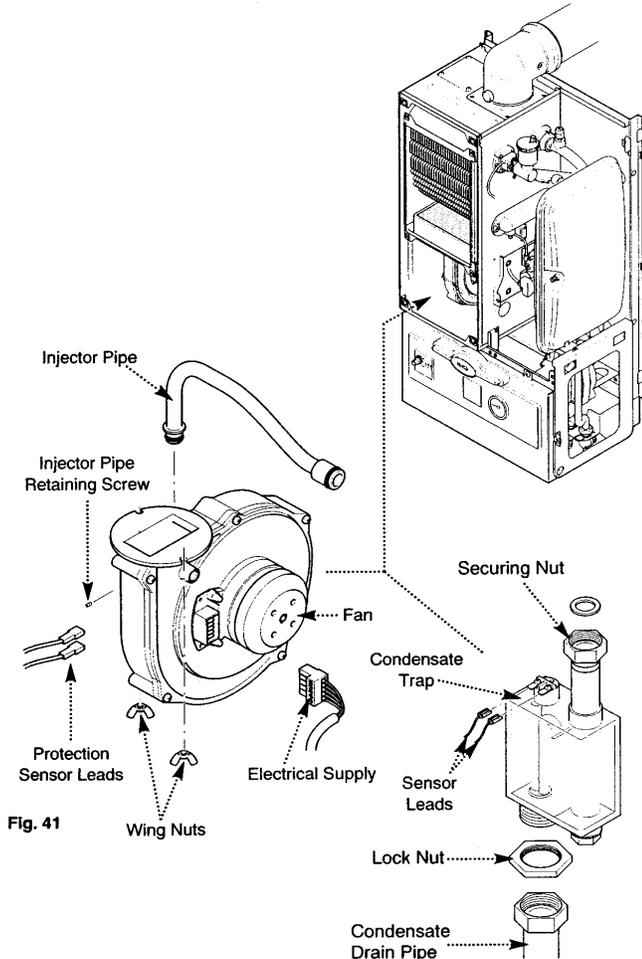

Fig. 42
- f) Undo the condensate trap securing nut, lock nut and the condensate drain pipe. Remove the condensate trap and disconnect the sensor leads (Fig. 42).